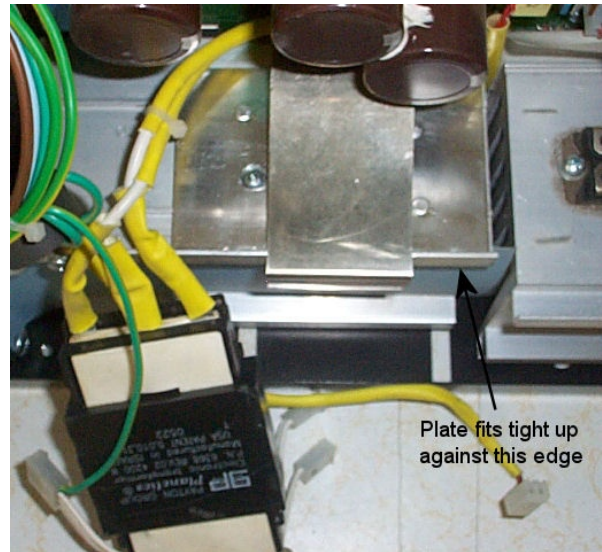

Fig 2 Heatsink Plate Location
8. Put 4 spots of silicon adhesive on the lower heatsink ridges, and then place the lower heatsink plate on these. Position it so the front edge is 1-2mm back from the front edge of the main heat sink, and fitting tightly against the near edge as in Fig 2.